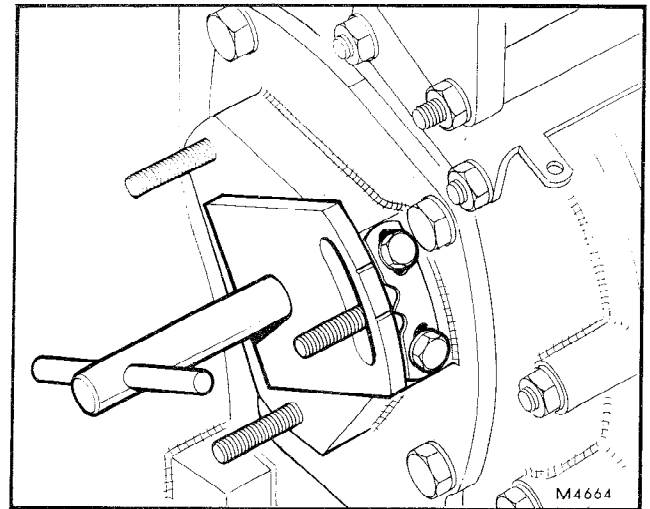

Fig. 4
- iii. Using tool 18G 1206 check and, if necessary, adjust the position of the injection pump timing pointer (refer to Fig. 4). Remove the timing pin and timing tool.